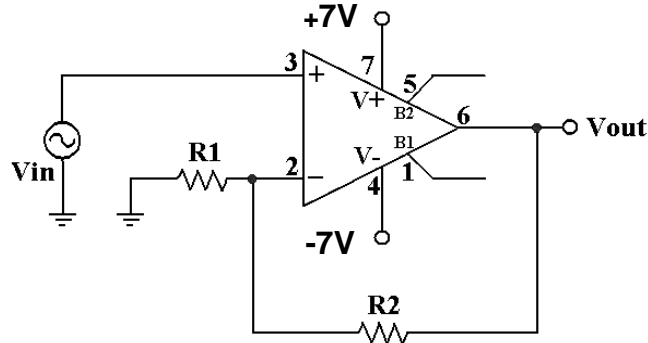
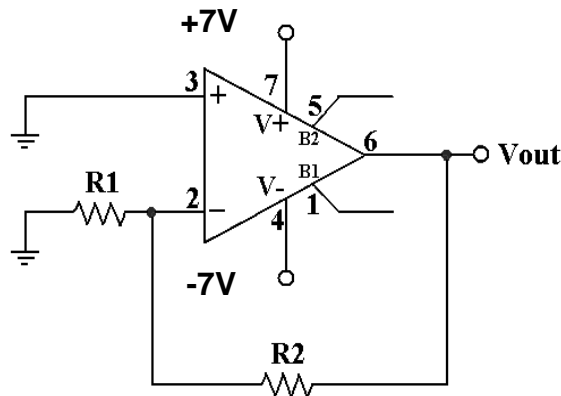

Fig. 2. Non-inverting Amplifier Configuration
Fig. 5. Offset Voltage Measurement Configuration
4. For the circuit shown in Fig. 2, derive the equation for the voltage gain at low frequencies (DC gain) assuming that the Opamp is ideal.
1. Turn the power supplies off. Connect the circuit as shown in Fig. 5 with the values of R_1 and R_2 you calculated in the pre lab for Fig. 2. Then make sure that you have powered the chip with the dual power supply. For this measurement, the non-inverting input of the Opamp is grounded. Use the Digital Multimeter to measure the output voltage. This is the output offset voltage.
2. The input offset voltage of the Opamp can be calculated by dividing the output offset voltage by the circuit's gain, which is $1+R_2/R_1$ for the circuit shown in Fig. 5.